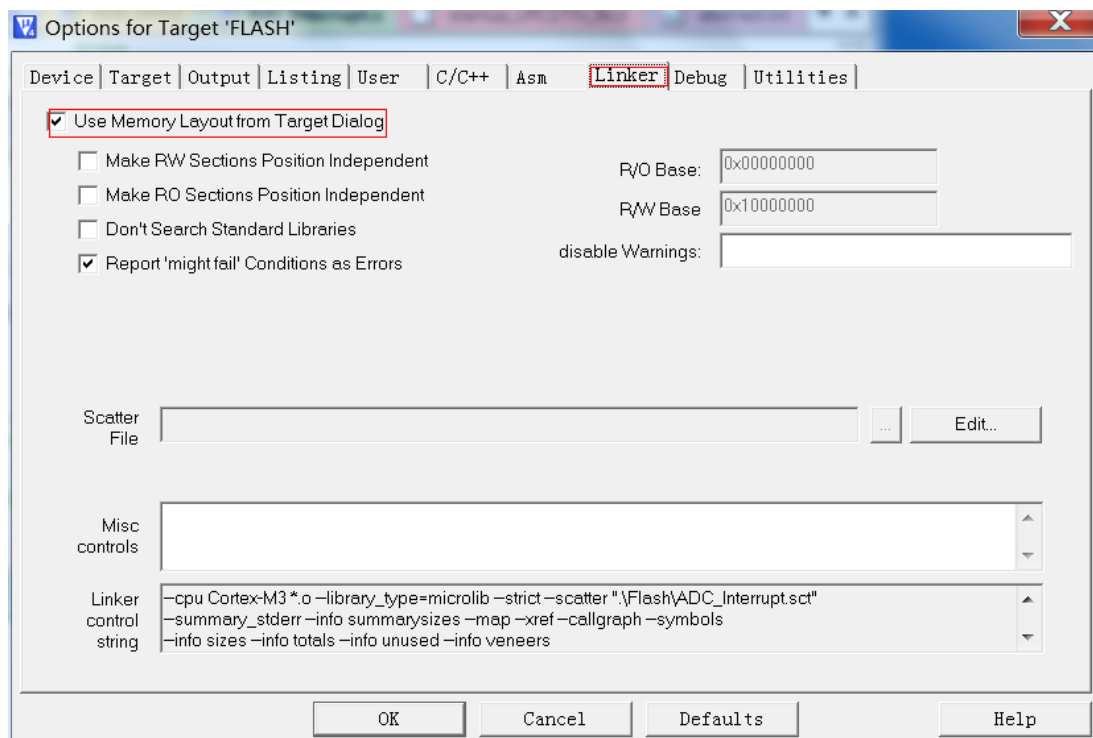

Figure 3-4
(4) Set Linker. Refer to figure 3-4: